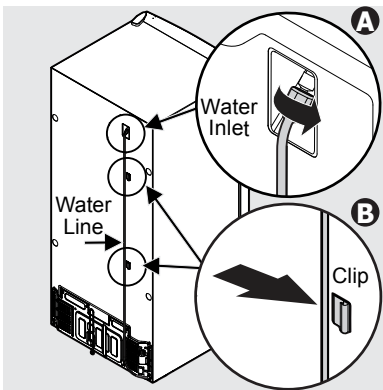

Figure 14
11. Install the water line by screwing the nut on the end of the tube onto the water inlet. Tighten the nut until snug, and then tighten an additional 1/4 turn with needle nose pliers. See Figure 14.